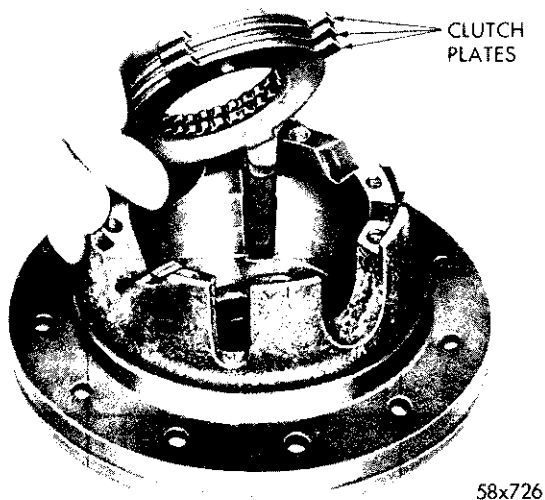

Fig. 44—Removing or Installing Clutch Plates
- (5) Remove remaining side gear (Fig. 42), side gear retainer (Fig. 43) and clutch plates (Fig. 44).
- (6) Remove axle shaft thrust spacer by pressing out lock pin.